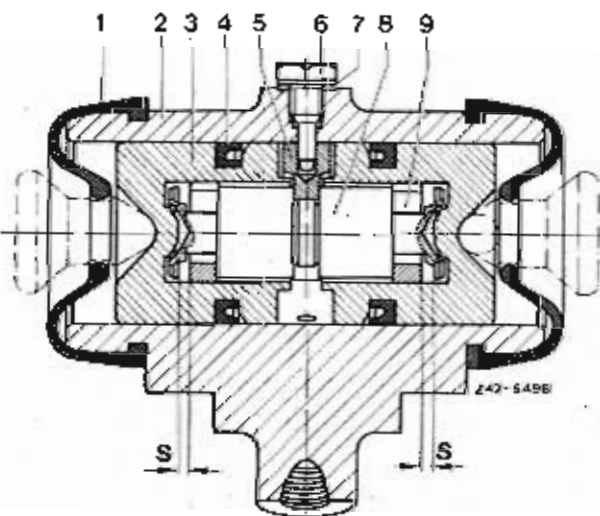

Fig. 1
The automatic adjustment takes place as a result of the frictional resistance between the clamping ring (Fig. 1, item 9) and the two pistons (3) in the wheel brake cylinder.